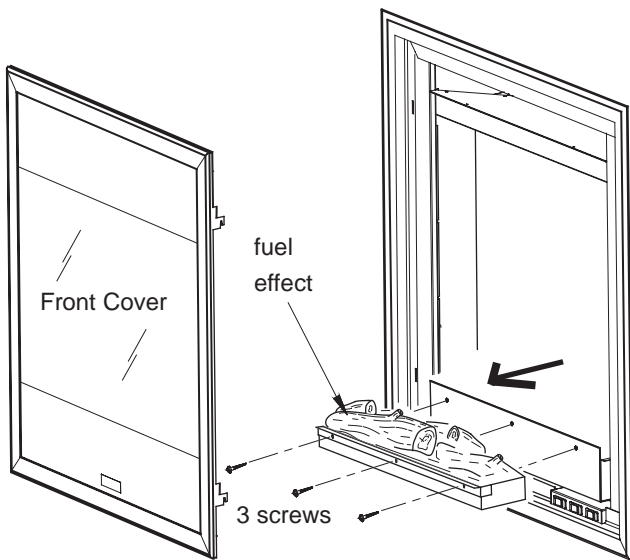

Fig. 7
3. Slide the fuel effect out, by holding the front ledge and set aside carefully (taking care not to damage the logs as they are fragile) – see Fig. 7.